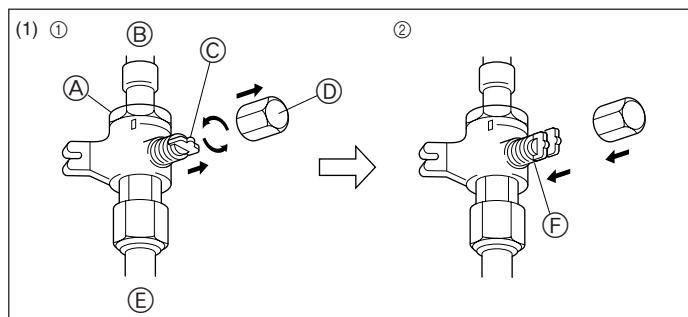

Fig. 4-5
(1) Gas side of RP2.5-6 (Fig. 4-5)